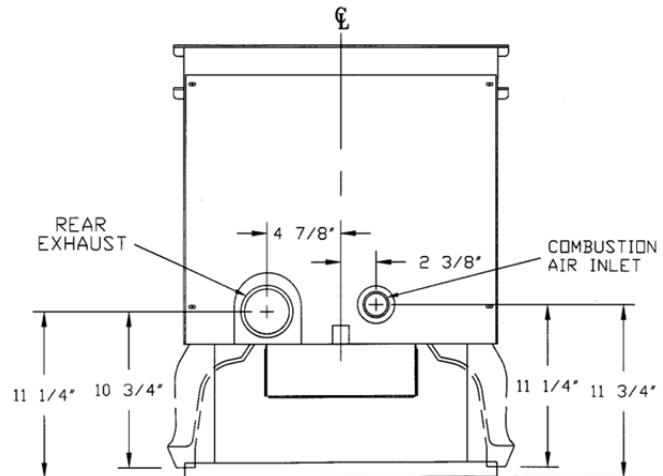
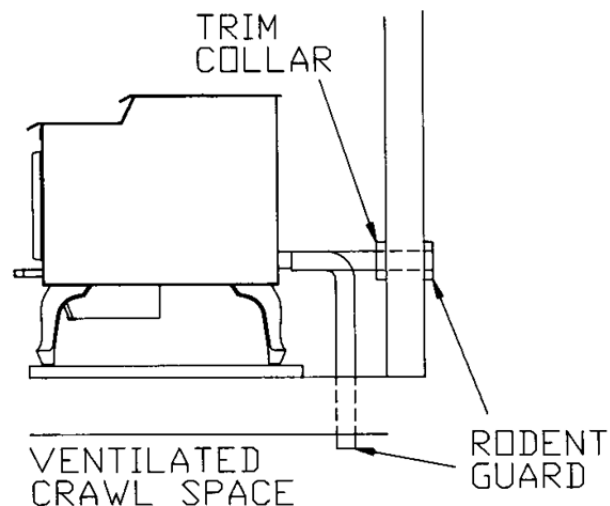

FIGURE 5
FIGURE 7
For a mobile home installation the stove must be connected to an outside source of combustion air. A 2" inside diameter metallic pipe, either flexible or rigid, may be attached to the inlet at the stove's rear (refer to figures 5 and 6). A rodent guard (minimum ¼" wire mesh)/wind hood must be used at the terminus (refer to figure 7). All connections must be secured and airtight by either using the appropriately sized hose clamp and/or UL-181-AP foil tape.
2. Locate position of hole in wall; directly behind stove exhaust vent (refer to figure 5).